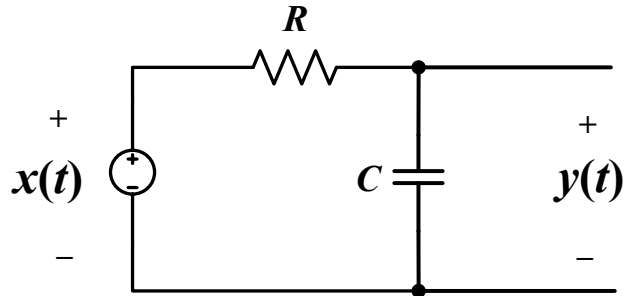

Fig. 2
The gain and phase responses of a RC circuit as shown in Fig. 2 has been briefly highlighted in the lecture. The objective of this exercise is to experimentally investigate the frequency response of a RC circuit as shown in Fig. 2. You will need to create a plot for $y(f)/x(f)$. Perform the following steps:
1. Build the circuit in Fig. 2 on a breadboard, with $R = 1\text{k}\Omega$, $C = 1\mu\text{F}$.